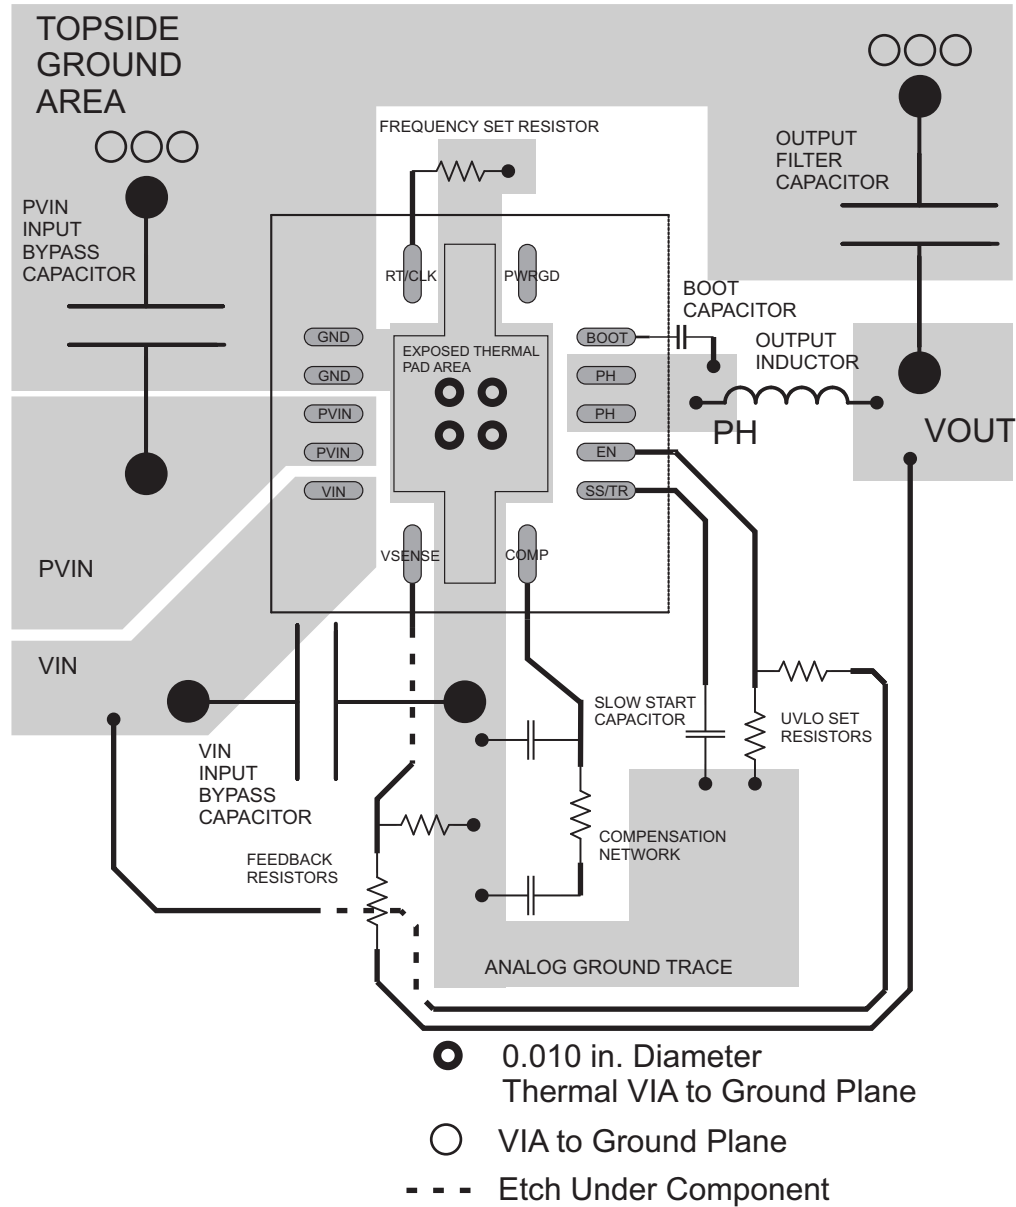

Figure 55. PCB Layout
The TPS54620 is designed to operate from an input voltage supply range between 4.5V and 17V. This supply voltage must be well regulated. Power supplies must be well bypassed for proper electrical performance. This includes a minimum of one 4.7 μ F (after de-rating) ceramic capacitor, type X5R or better from PVIN to GND, and from VIN to GND. Additional local ceramic bypass capacitance may be required in systems with small input ripple specifications, in addition to bulk capacitance if the TPS54620 device is located more than a few inches away from its input power supply. In systems with an auxiliary power rail available, the power stage input, PVIN, and the analog power input, VIN, may operate from separate input supplies. See Figure 55 (layout recommendation) for recommended bypass capacitor placement.
- Layout is a critical portion of good power supply design. See Figure 55 for a PCB layout example.